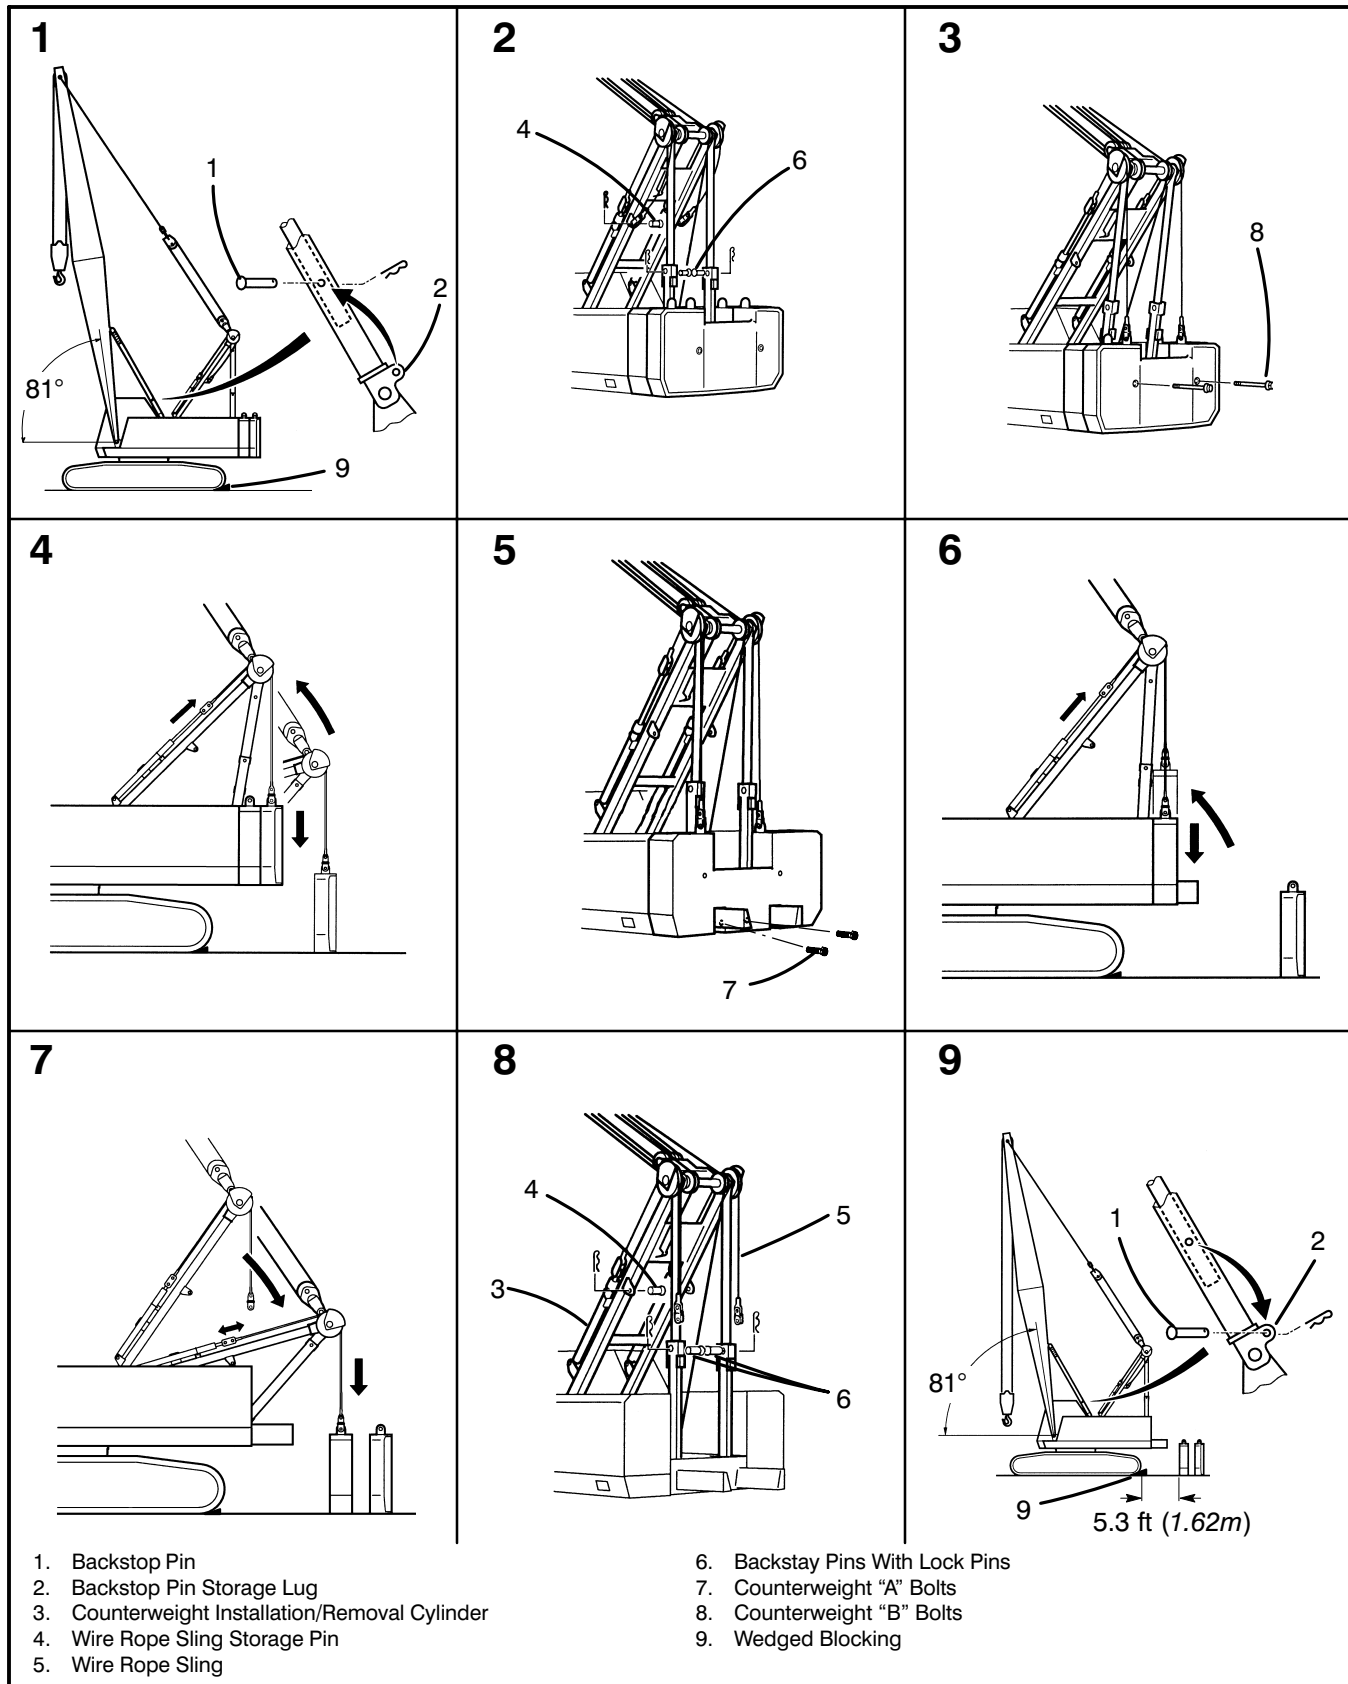

Figure 1–81
24. Connect the wire rope slings on the counterweight installation/removal cylinders to counterweight "B". Refer to Figure 1–81.
35. Connect the wire rope slings on the counterweight installation/removal cylinders to counterweight "A". Refer to Figure 1–81.
42. Raise/lower the gantry as required and pin it in the high position with the backstay pins. Secure with lock pins. Refer to Figure 1–81.
45. If required, remove the lower "XL" counterweights. Refer to Figure 1–79. Using an auxiliary lifting device, attach slings to a lower "XL" counterweight. Lift until slings are tight. Remove the two lower "XL" counterweight bolts. Lift the lower "XL" counterweight up and off the hooks on the side frame. Set the lower "XL" counterweight down on a firm, level surface. Remove the slings from the lower "XL" counterweight.